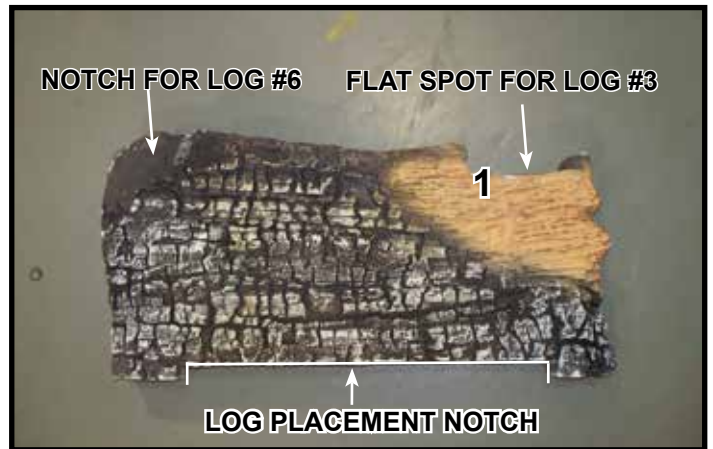

Figure 2.
**Log #1 (SRV2280-701 for TRUE-36, SRV2281-701 FOR TRUE-42):** Locate log placement notch on the bottom of log #1. See Figure 2. Mate outer notches on the bottom of Log #1 with the left and right grate tines. Slide Log #1 toward the rear of appliance until back side of Log #1 contacts the log placement tabs. See Figures 1-3.